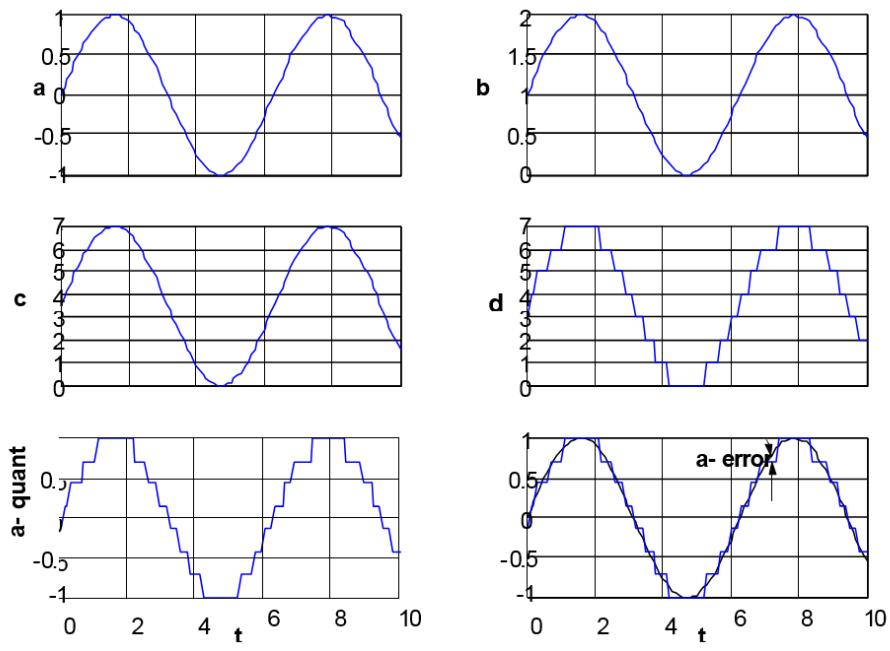

Figure 2.3 Steps of quantization in simulation
5. Calculate,  $a_{max} = \max(\text{abs}(a))$ . See figure 2.3(a).
12. Plot your variables  $a$ ,  $b$ ,  $c$ ,  $d$ ,  $a\_quant$  and  $a\_error$  for quantization level 8. Show your plots exactly as shown in the Figure 2.3 in a single template. Use ‘subplot’ function for that.